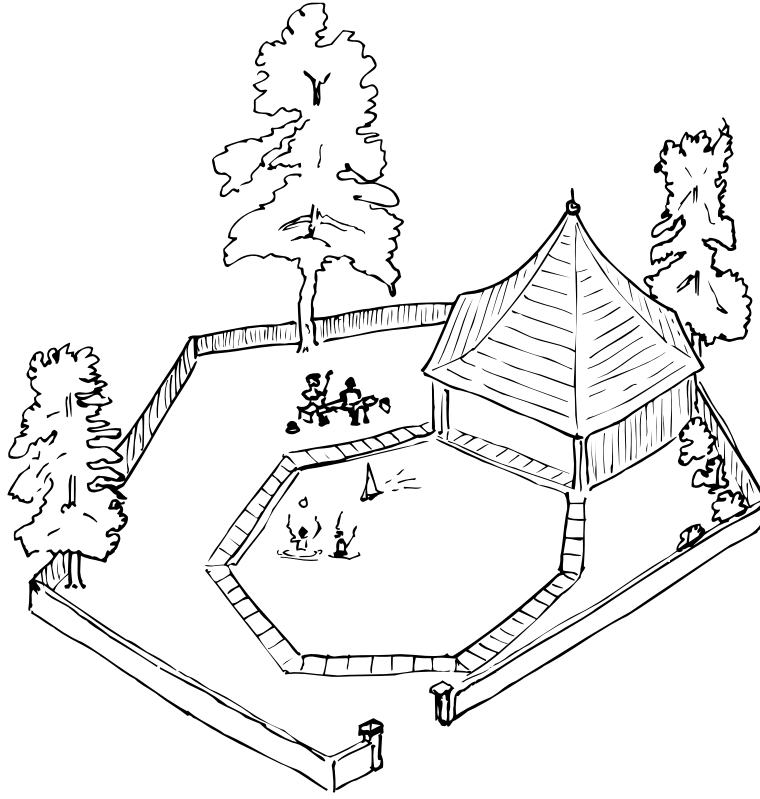
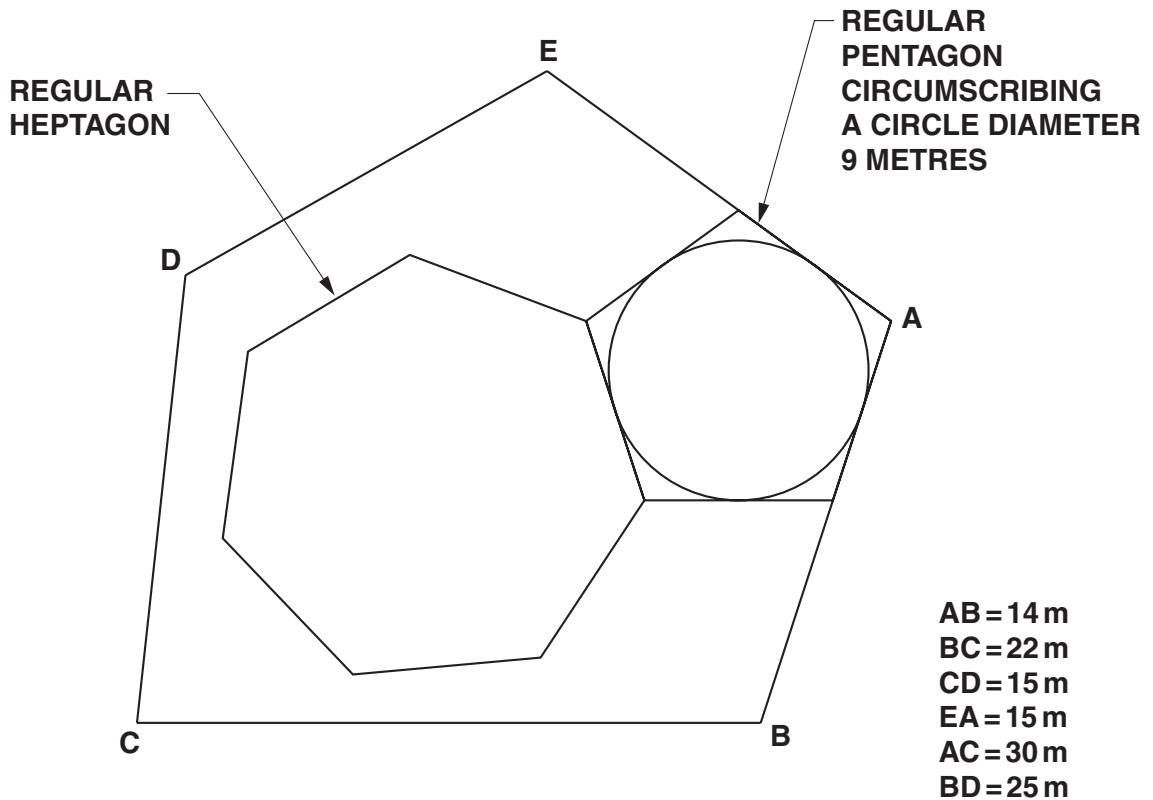

Fig. 3a
Fig. 3b
- 3 A children's paddling pool and shelter are built on an irregularly shaped site. The sketch, Fig. 3a, gives an impression of the site and a dimensioned plan view of it is given in Fig. 3b.